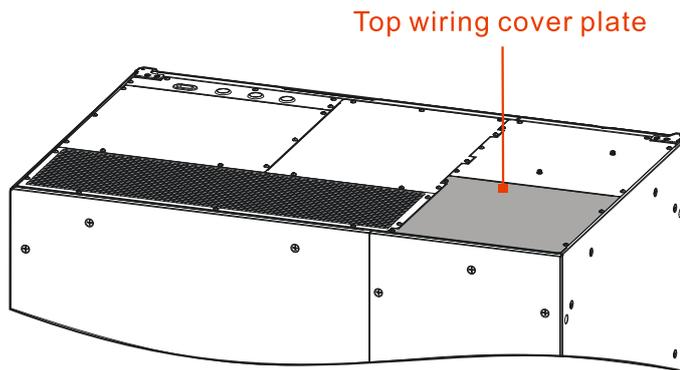

Figure3-27 Top wiring cover plate position of PS500KVA、PS600KVA
Step 2 Unscrew the fasten bolts of top wiring cover plate (as shown in Figure3-27) by screwdriver and take them down.